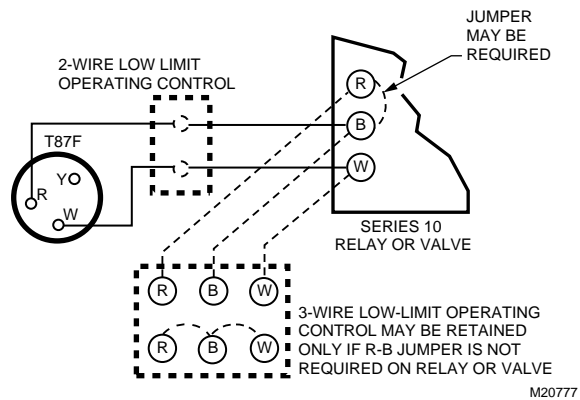

Fig. 11. T87F (replacing a series 10 thermostat) connected to a 2- or 3-wire low limit control.
1. Connect the wires from the thermostat (R and W) to the terminals on the three-wire primary (B and W). See Fig. 11 and 12.
- Some Honeywell series 10 relays require an R-B jumper (see Fig. 11). These relays are:
- Relays or valves that do not require a jumper may retain a three-wire, low limit control as shown in Fig. 11. If the jumper is required, a two-wire control must be used.